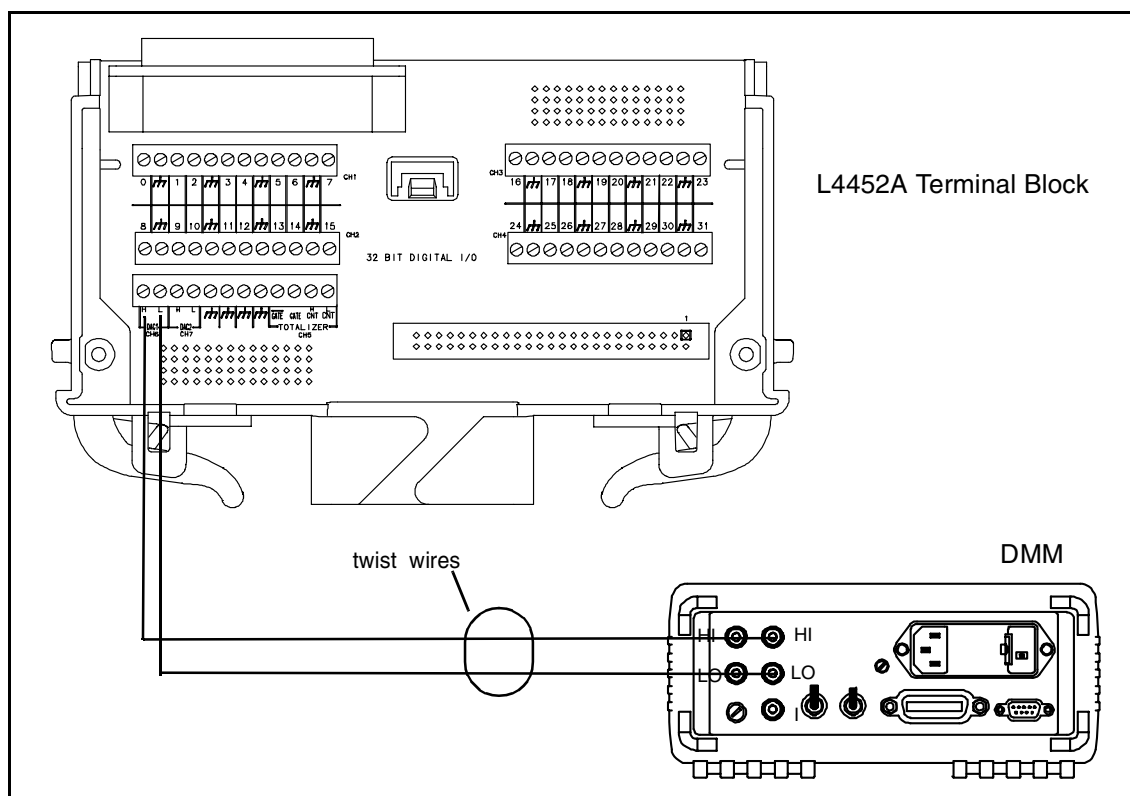

Figure A-3. L4452A DAC Output Connections (Channels 6 and 7).
The test connection for verifying the DAC output voltage on channels 6 and 7 of the L4452A are shown in Figure A-3.
- 3** Connect channel 6 of the L4452A as shown in Figure A-3. Configure the L4452A to output the voltages listed in Table A-5. For each voltage level measured, subtract the offset voltage recorded in Step 2 as applicable. The results should be within the limits listed in Table A-5.
4 Connect channel 6 of the L4452A to the DMM as shown in Figure A-3. Set the DMM to measure DC volts.
7 Connect channel 7 of the L4452A to the DMM as shown in Figure A-3. Repeat Steps 5 and 6 for channel 7.